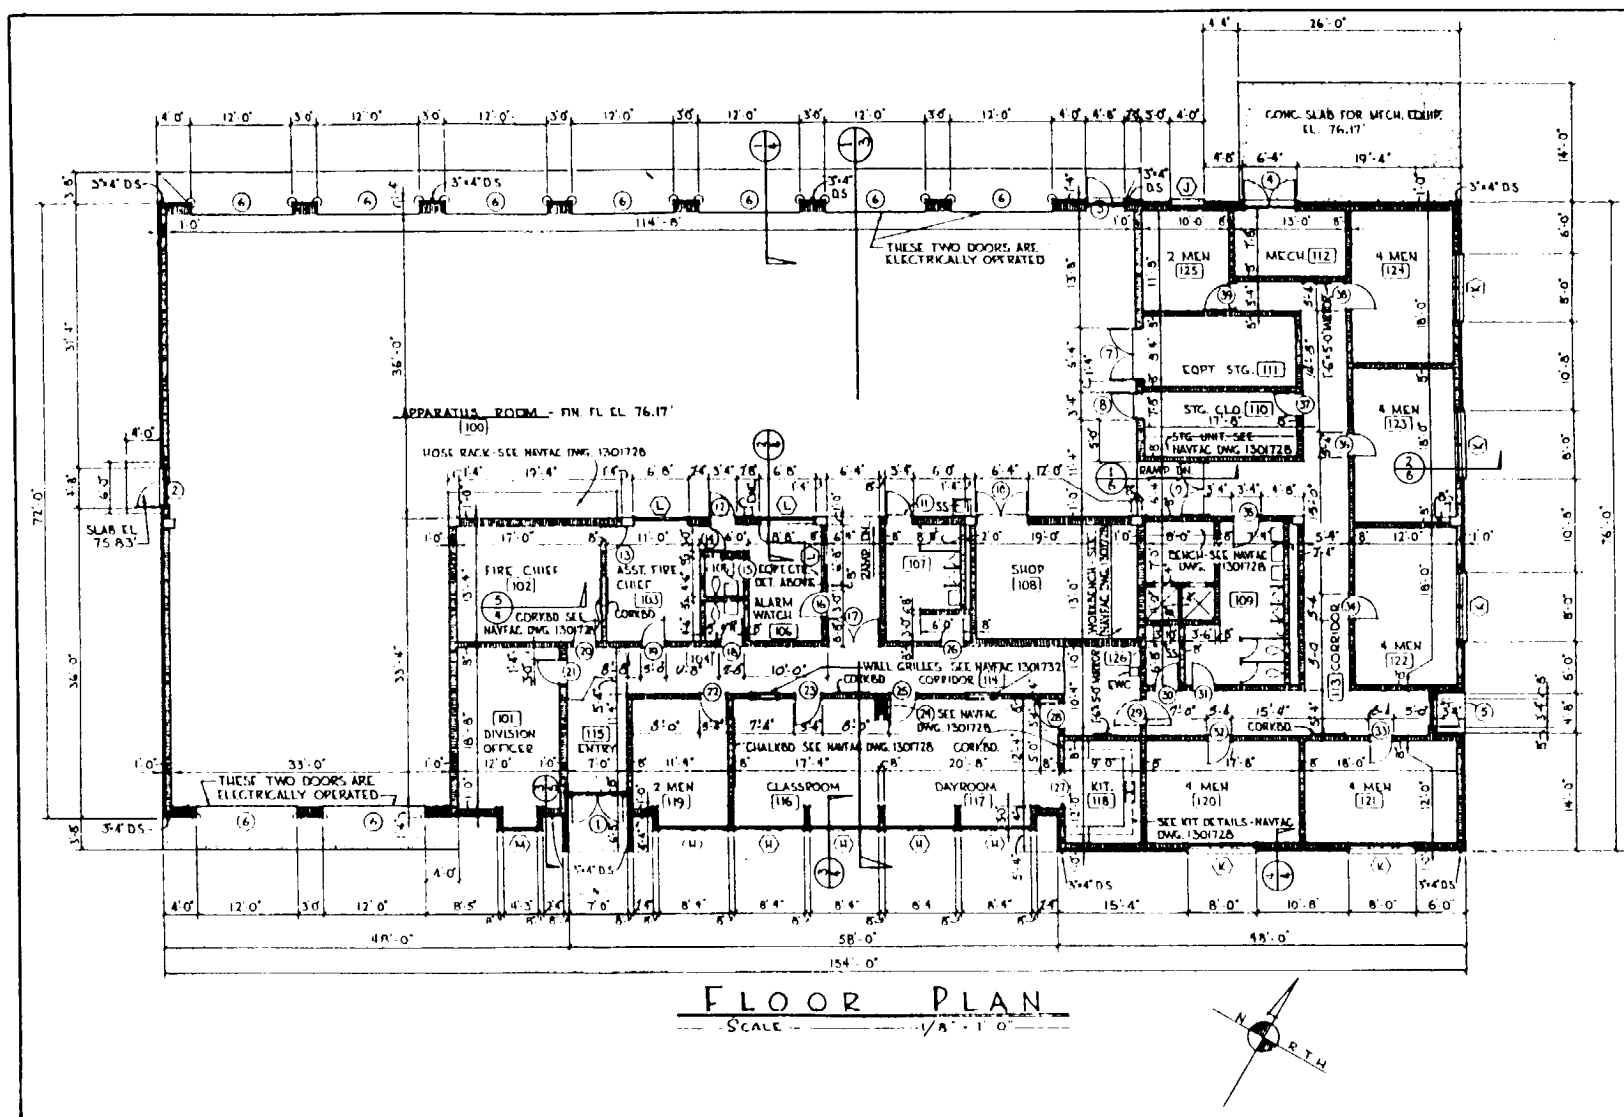

Figure 10-13.—Example of a floor plan for a concrete-masonry construction.
Figure 10-13 shows a floor plan of a concrete-masonry construction. It gives the lengths, thicknesses, and character of the outside walls and partitions at the particular floor level. It also shows the dimensions and arrangement of the rooms, the widths and locations of the doors and windows, and the locations and character of the rest rooms and other utility features. Study figure 10-13 carefully!
2. In wood frame construction, doors and windows are dimensioned to their center lines. This is not the case in concrete or masonry construction, as shown in figure 10-13. Notice in this figure that the rough openings of the doors and windows and the distance between the rough openings are dimensioned. This is the correct procedure for